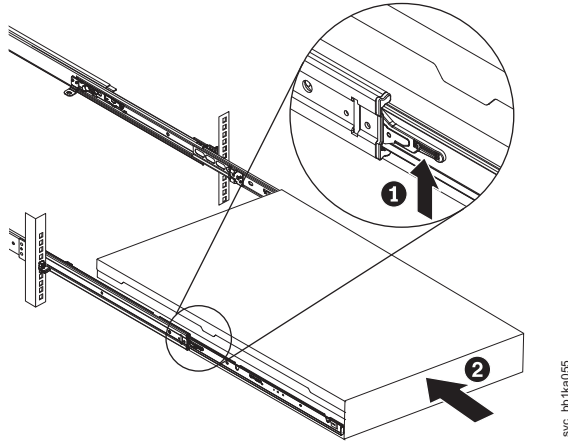

Figure 147. Raising the locking levers of the slide rails of the rack
12. Lift the locking levers (**1** in Figure 147 on page 177) on the slide rails and push the server **2** all the way into the rack until it clicks into place.